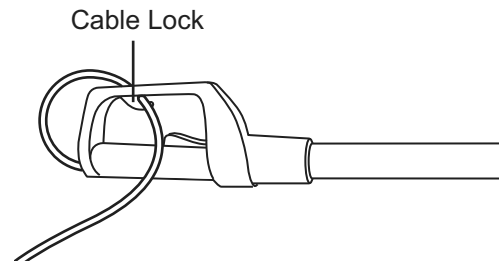

Figure 10
3. For tension relief of the power cord, loop the cord and bring this through the opening at the handle and insert it into the Cable Hook. See Figure 10, right.